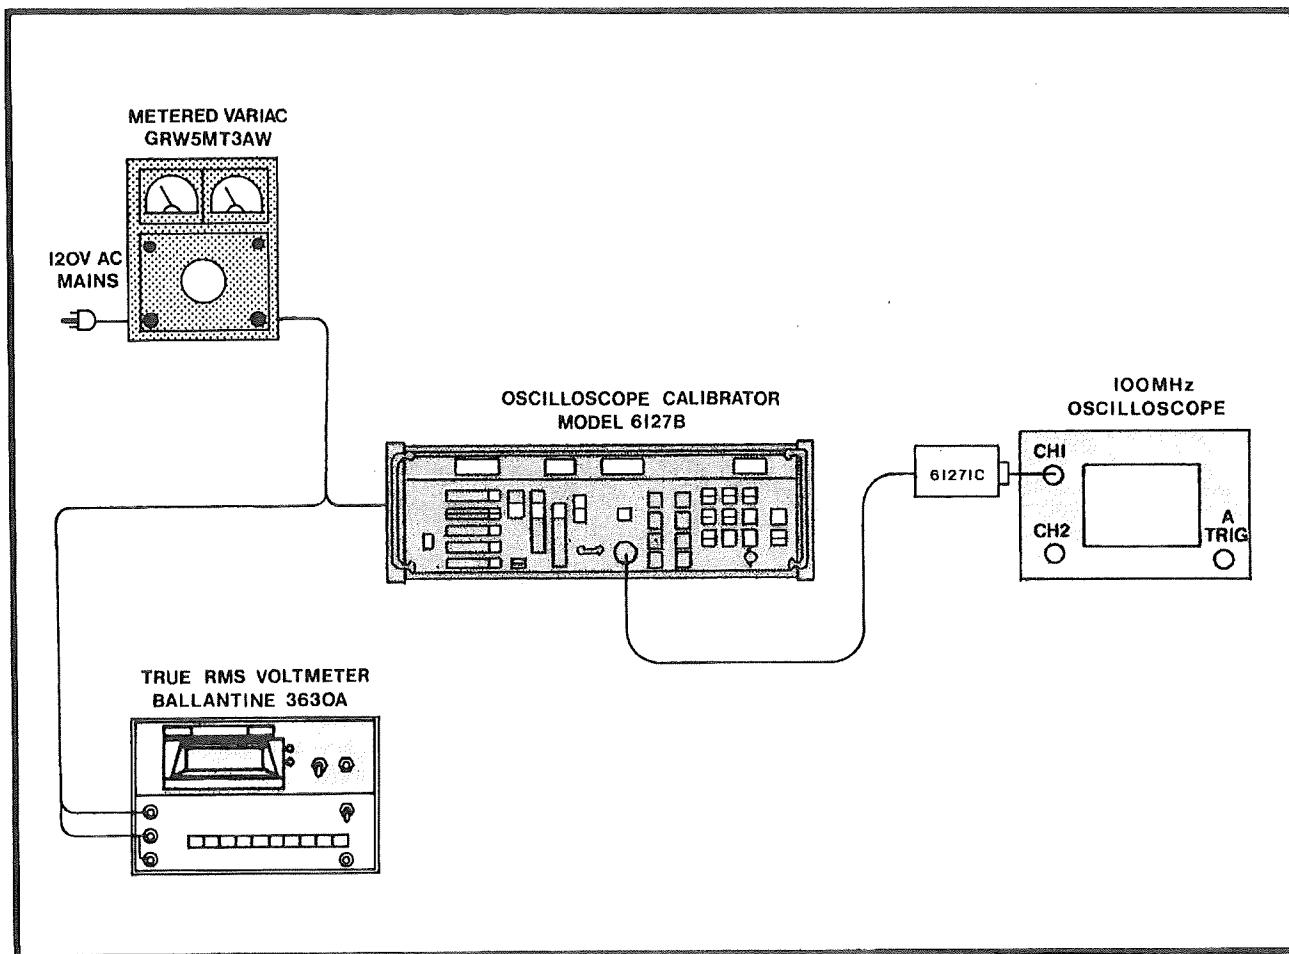

Figure 5-4a. LOW DISTORTION PULSE > 1.2 Volt Output Check, Test Set-Up
a. Interconnect the Calibrator and test equipment as shown in figure 5-4A. Connect the 61271C OUTPUT BNC directly to the oscilloscope CH1 input BNC. Terminate the external trigger cable in 50 ohms at the oscilloscope.